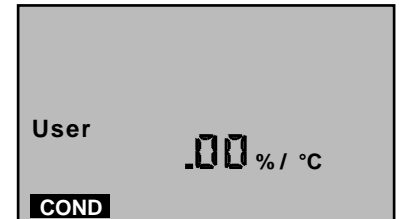

Figure 3
- b. With "USER" selected, press **CAL/MCLR**. If the display does not show .00%/°C, hold **MR** long enough to bring the tempco to .00%/°C (see Fig. 3).